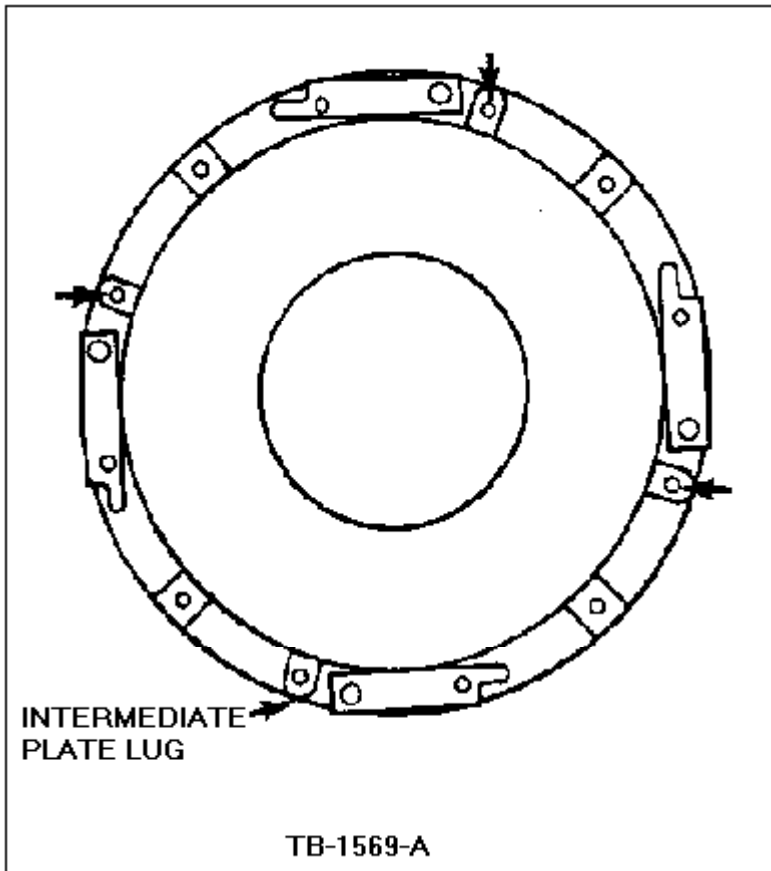

Figure 10 - Article 90-5-17
1. When reinstalling the intermediate plate assembly, be sure that the four (4) separator pins are flush with the cast surface of the intermediate plate lug, Figure 10.
2. Install the intermediate plate assembly as shown in Figure 10 with the drive straps toward the pressure plate.